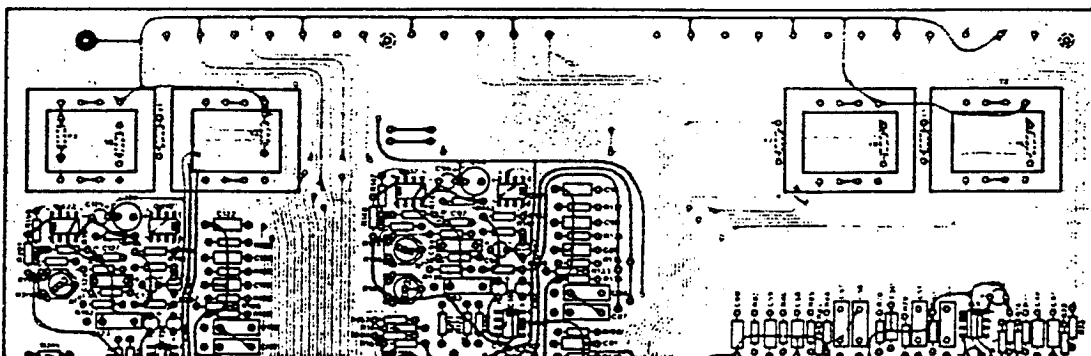

Fig. 2-5 — Model 180 Main Circuit Board
4. Referring to Figure 2-5, find the locations on the 180's circuit board for those outputs on which you wish to install transformers. Within each of the transformer-mounting areas are jumpers; cut or unsolder these jumpers wherever a transformer will be installed.